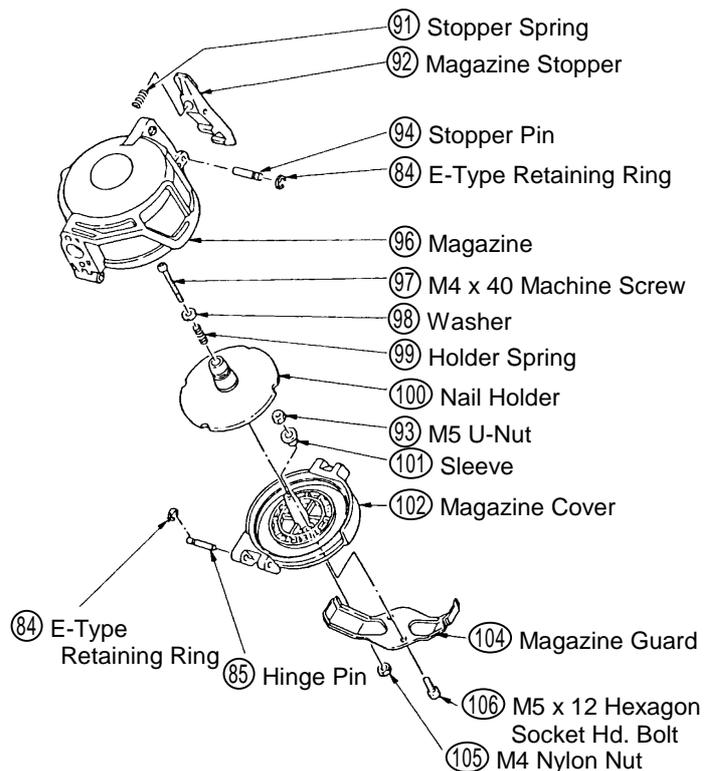

Fig. 19
1-4. Disassembly and Reassembly of the Magazine Section: (Refer to Fig. 19)
- Carefully align the groove on the Hinge Pin (85), and mount the 3 mm E-Type Retaining Ring (84). Confirm that it is properly assembled.
- Be very careful not to lose the 3 mm E-Type Retaining Ring (84).
(3) Nail Holder (100), Magazine Guard (104) and related parts; (Refer to Fig. 19)
- Confirm that the Sleeve (101), is properly inserted into the hole in the Magazine Cover (102).
- Firmly support the M5 U-Nuts (93) with the 8 mm Spanner, and tighten the M5 x 12 Hexagon Socket Hd. Bolts (106) to rated torque: 20 ± 3 kg-cm (1.45 ± 0.22 ft-lbs).
- Carefully ensure that the M4 x 40 Machine Screw (97) is tightened to rated torque of 5 - 10 kg-cm (0.36 - 0.72 ft-lbs) .
(4) Magazine Stopper (92): (Refer to Fig. 19)